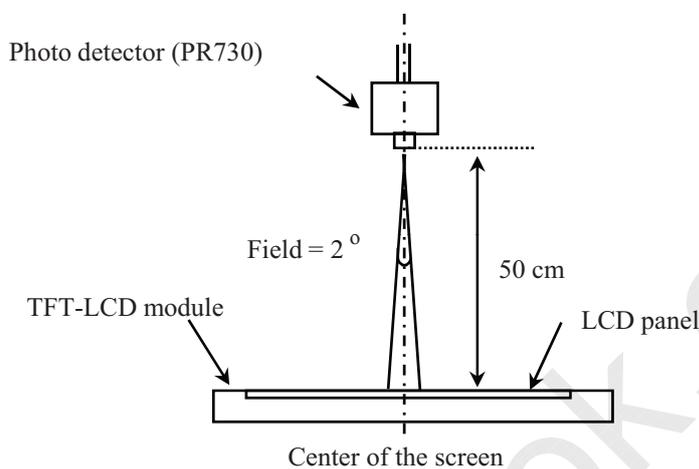

Figure 7. Measurement Set Up
1. Viewing angle is the angle at which the contrast ratio is greater than 10. The viewing angles are determined for the horizontal or 3, 9 o'clock direction and the vertical or 6, 12 o'clock direction with respect to the optical axis which is normal to the LCD surface (see Figure 7).
2. Contrast measurements shall be made at viewing angle of $\Theta = 0$ and at the center of the LCD surface. Luminance shall be measured with all pixels in the view field set first to white, then to the dark (black) state . (see Figure 7) Luminance Contrast Ratio (CR) is defined mathematically.
Center Luminance of white is defined as luminance values of center 5 points across the LCD surface. Luminance shall be measured with all pixels in the view field set first to white. This measurement shall be taken at the locations shown in Figure 7 for a total of the measurements per display.